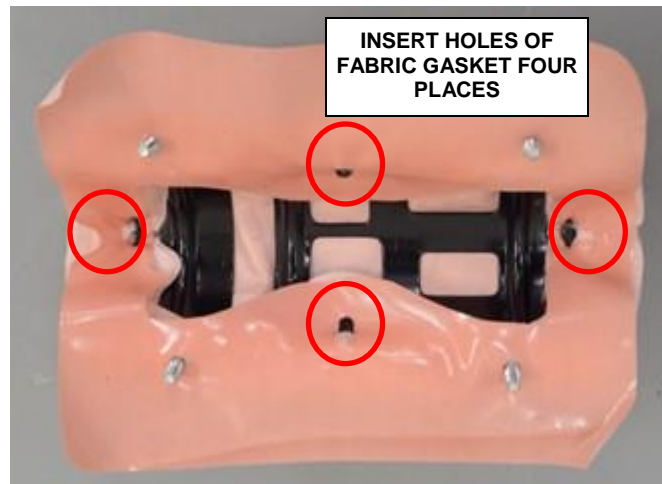

Figure 111 – Fabric Gasket
- j. With the help of a trim tool insert the holes of fabric gasket, four places (Figure 111).